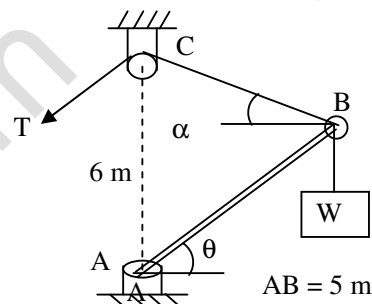

Figure 2
- b) The boom of crane is shown in Figure 2, if the weight of the boom is negligible compared with the load  $W = 60$  kN, find the compression in the boom and also limiting value of tension ' $T$ ' when the boom approaches the vertical position. (7M+8M)